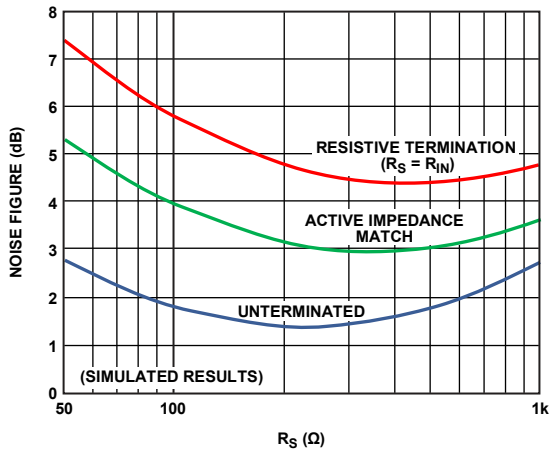

Figure 67. Noise Figure vs.  $R_s$  for Resistive, Active Match, and Terminated Inputs
The primary purpose of input impedance matching is to optimize the input signal power transfer. With resistive termination, the input noise increases due to the thermal noise of the terminating resistor and the increased contribution of the input voltage noise generator of the LNA. With active impedance matching, however, the contributions of both are smaller than they are for resistive termination by a factor of  $1/(1 + \frac{1}{2} \text{ LNA gain})$ . The noise figure (NF) for the three terminating schemes is shown in Figure 67.